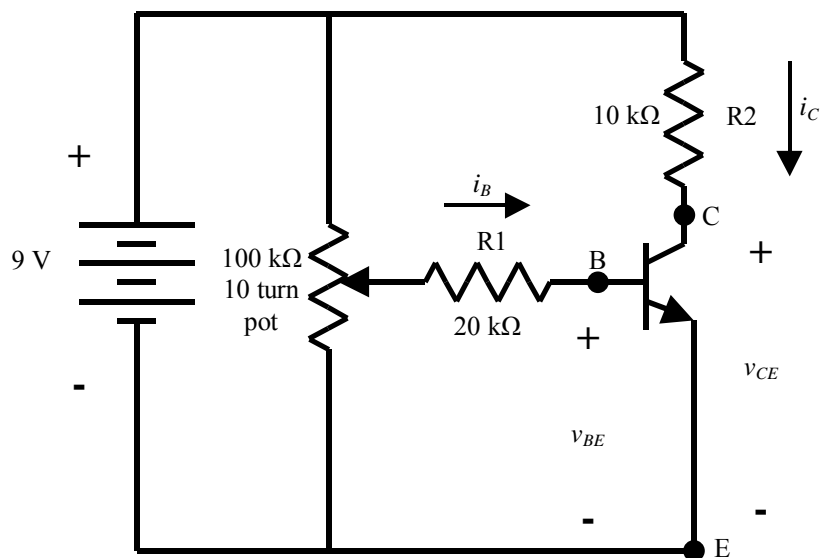

Figure P3-2 Transistor circuit.
a. (5 points) Construct the circuit of figure P3-2 using the bipolar junction transistor (BJT). Adjust the 100k Ω potentiometer (trim pot) to obtain a voltage between the collector and emitter of the transistor, v_{CE} , of approximately 5 volts. Measure and record the